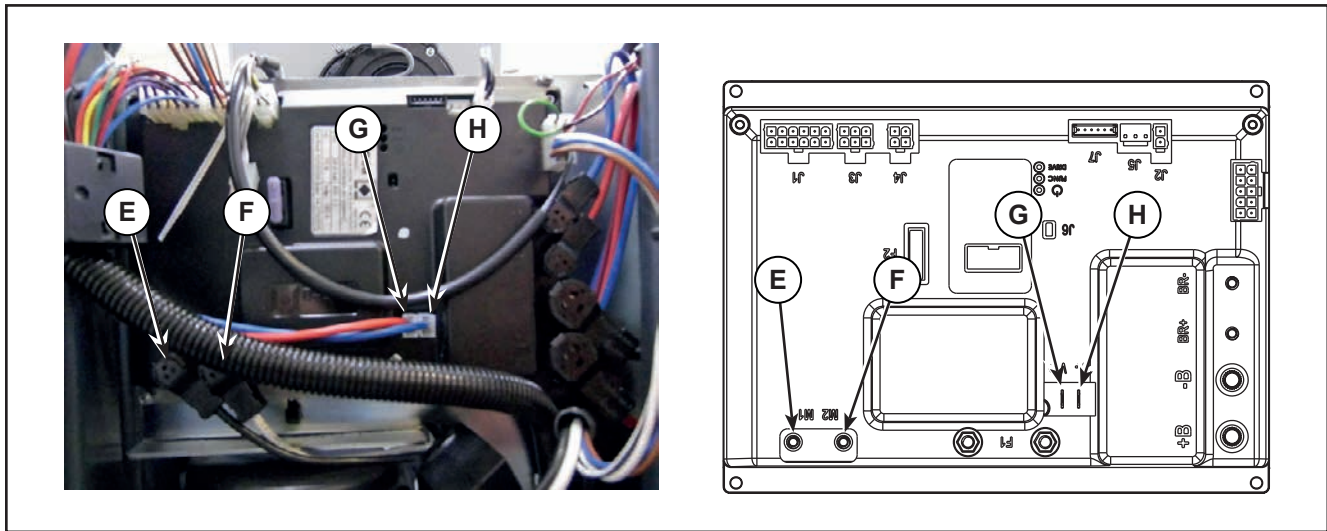

Figure 13:
8. Disconnect the following connections (Figure 13):
- (I) Key, accelerator and steering wheel connection (J1).
- (J) Squeegee actuator, beacon light and driver's seat sensor connection (J3).
- (K) Battery charger connection (J4).
- (L) Brush deck actuator connection (J2).
- (M) Accessory connection (J8).